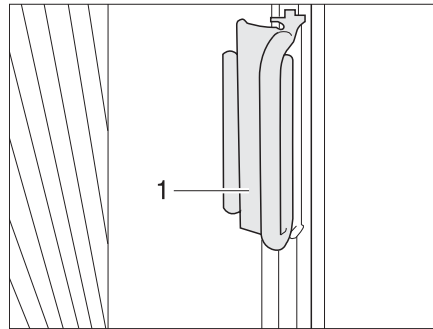

Fig. 14 Handle of the Roman shade of the windscreen
- Use the handles (Fig. 14,1) to slide the Roman shades for the windscreen under covers at the A column and fasten the handle on the cover. The Roman shade is secured.